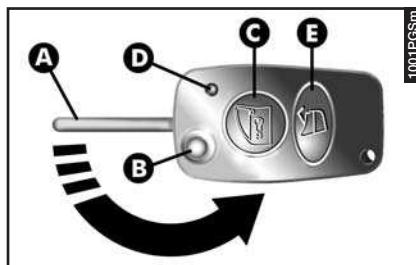

fig. 6
KEY WITH RADIO FREQUENCY TRANSMITTER WITH RE-CLOSABLE METALLIC INSERT WITH POWER-ASSISTED OPENING (**fig. 6**) (optional for versions/markets where applicable)
To insert the metallic insert in the key grip, keep button (B-**fig. 6**) pressed and turn the insert on the direction of the arrow until it clicks into place, then release the button (B).
The boot can be opened by remote control from outside pressing button (E-**fig. 6**), also when the electronic alarm (where fitted) is on.